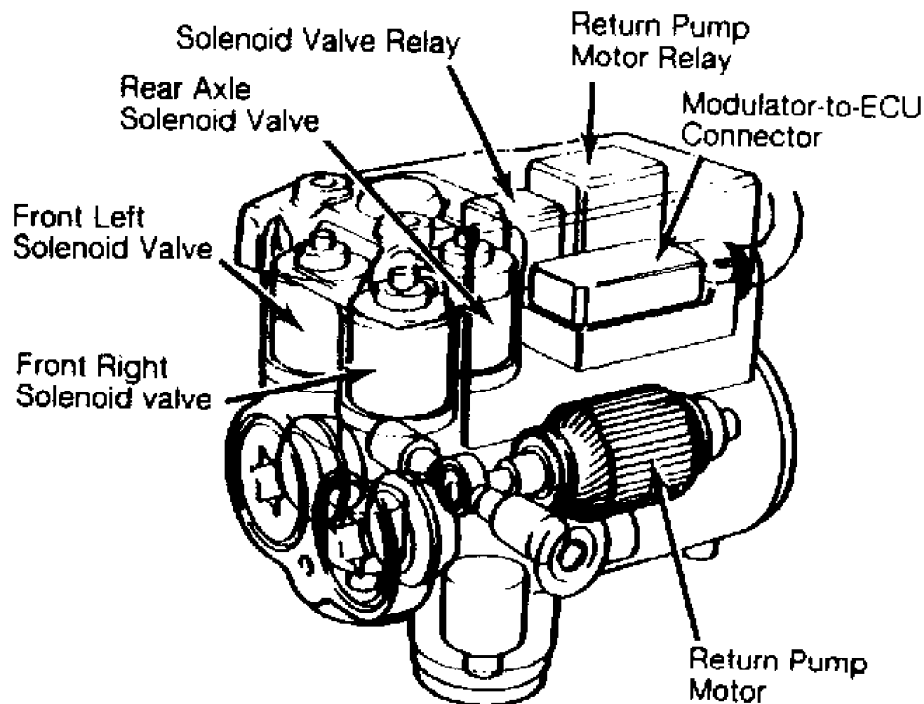

Fig. 5: Identifying Hydraulic Modulator Assembly
2) If resistance is not correct, check wiring harness between ECU and ground connections. Terminals No. 10, 20, and 34 are grounded at left "A" pillar. If fault is found at terminal No. 32, retest with new solenoid valve relay. See Fig. 5.
2) Simultaneously measure voltage across connector terminal No. 14 and ground. Battery voltage should be present. If hydraulic modulator does not function, check wiring from ECU connector to modulator. If wiring is not faulty, replace and retest relay. See Fig. 5.
2) Solenoid valve relay should switch on and DVOM should read battery voltage. If solenoid valve is inoperative and DVOM does not read battery voltage, check wiring harness from ECU connector and hydraulic modulator. If wiring is not faulty, replace relay and retest. See Fig. 5.
1) Disconnect negative battery cable. Remove cover from hydraulic modulator, located on right inner fender panel. See Fig. 1. Remove solenoid valve and return pump relays from modulator. See Fig. 5. Unplug modulator harness connector.